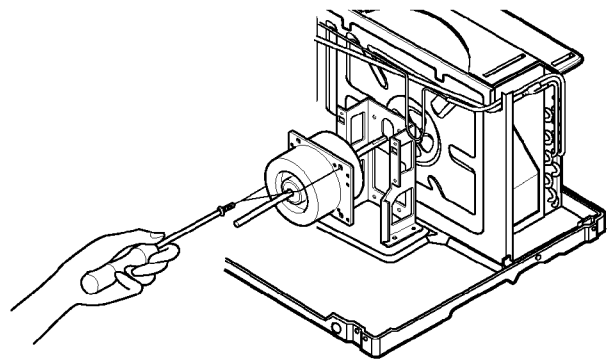

Figure 11
7. Remove the 2 screws which fasten the motor from the mount motor. (See Figure 11)
9. Re-install the components by referring to the removal procedure, above.(See Figure 11)